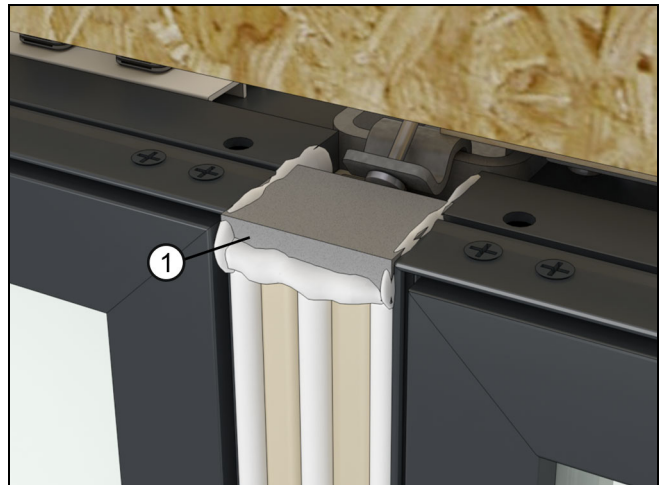

Figure 105
25. Seat foam blocks in the sealant. See Figure 105 and Figure 106.